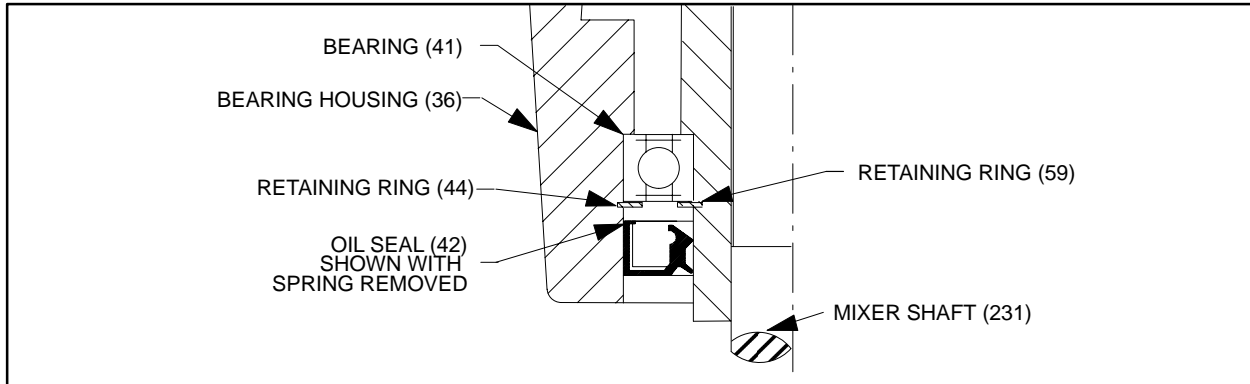

Figure 3- Oil Seal Installation
- b . Install oil seal with lip facing up as shown in Figure 3.
- a . Press the lower bearing (41) onto the drive quill (35) bearing journal. The bearing must seat against the drive quill shaft shoulder with no visible gap.
- b . Install the lower external retaining ring (59).
- c . Press the drive quill assembly into the bearing housing (36) from the bottom until the bearing seats on the housing shoulder.
- d . Install lower retaining ring (44).
- e . Press oil seal (42) in place with the seal cavity facing as shown in Figure 3. Make sure the oil seal has the internal spring removed. This is a non-lubricated seal, and will run hot and have a shortened life if the spring is not removed.
- f . Turn the bearing housing over, support the assembly on the quill shaft (35) and install the upper bearing (45) by pressing it into the bearing housing and onto the quill shaft.
- g . Install the upper retaining ring (59).
- h . Support the bearing housing assembly in an upright position and press the drive quill downward until the bearing (41) shoulders on the retaining ring (59). This will relieve any locked in axial load on the bearing created during assembly.